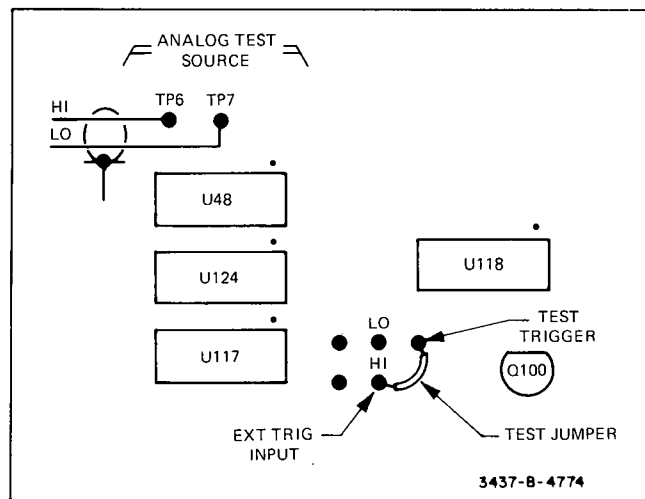

Figure 5-12. Analog Test - Source.
a. Connect the internal test source (located on the A2 logic board) to the analog input terminals, and test trigger to the delay logic external trigger input (Figure 5-12).